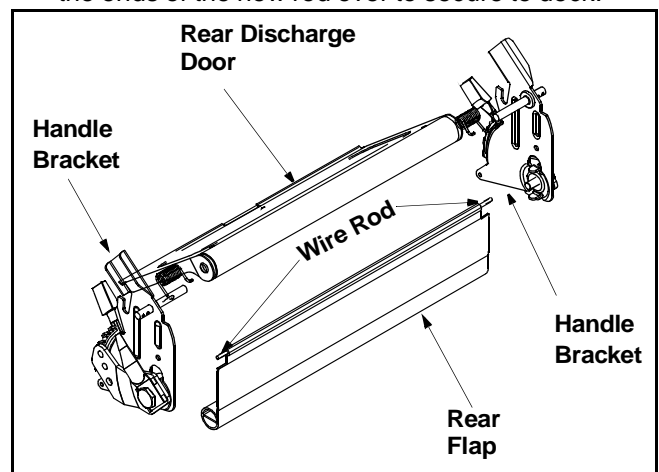

Figure 16
- To remove rear flap, cut off the flat end of the wire rod which secures it to the deck. See Figure 16 .